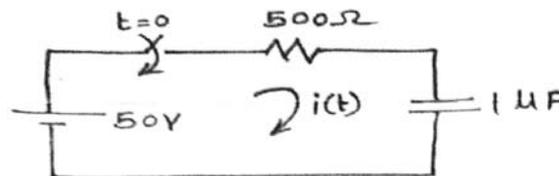

Fig. 1
- b) In the network shown in Fig. 1, switch is closed at  $t = 0$ . Before closing the switch capacitor was in uncharged state. Find the values of  $i(0^+)$ ,  $\frac{di(0^+)}{dt}$ ,  $\frac{d^2i(0^+)}{dt^2}$ . [6]